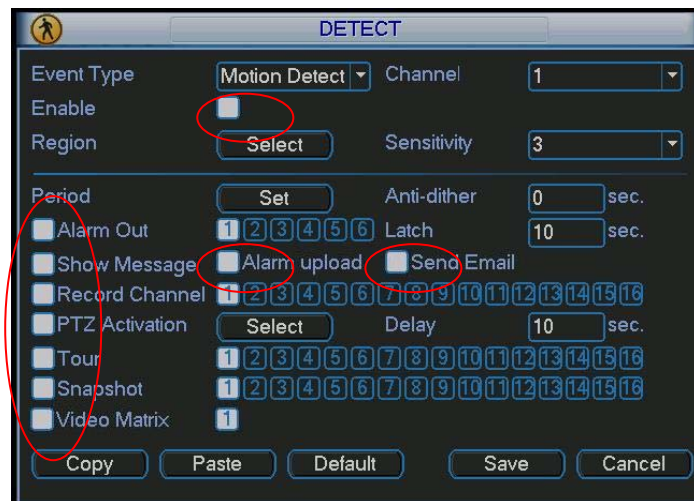
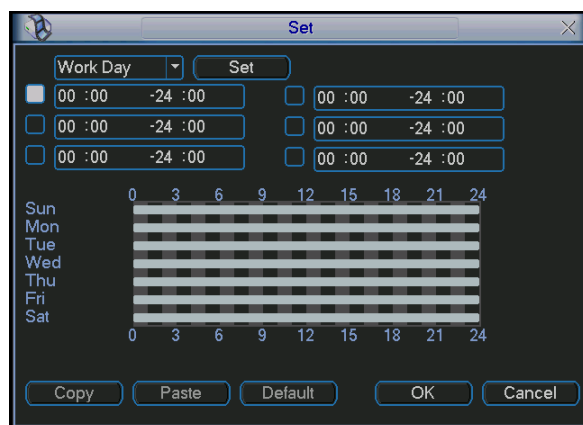
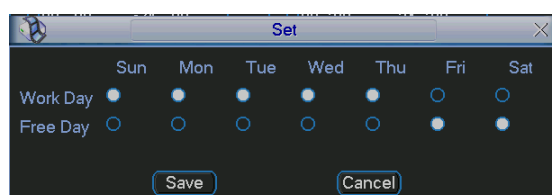
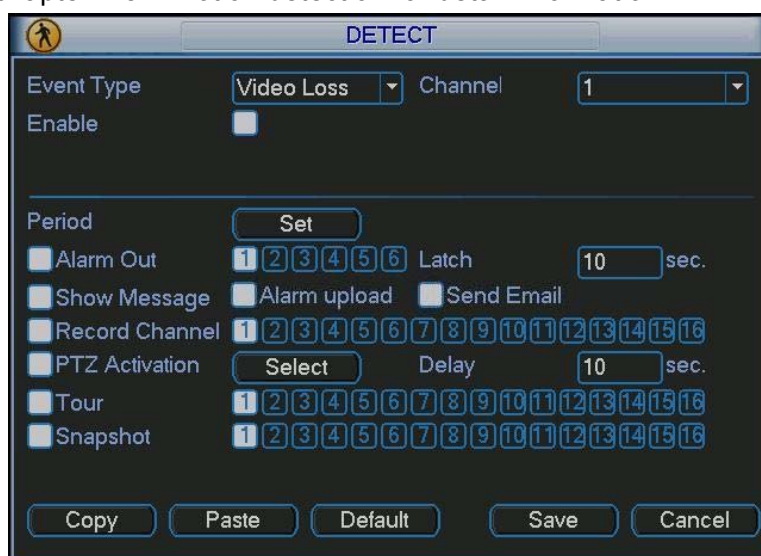

Figure 4-19
Figure 4-22
Figure 4-23
Figure 4-24
In the main menu, from Setting to Detect, you can see motion detect interface. See Figure 4-19. There are three detection types: motion detection, video loss, camera masking.
Detection menu is shown as below. See Figure 4-19.
- Period: Click set button, you can see an interface is shown as in Figure 4-22. Here you can set for business day and non-business day. In Figure 4-19, click set button, you can see an interface is shown as in Figure 4-23. Here you can set your own setup for business day and non-business day.
In Figure 4-19, select video loss from the type list. You can see the interface is shown as in Figure 4-24. This function allows you to be informed when video loss phenomenon occurred. You can enable alarm output channel and then enable show message function.